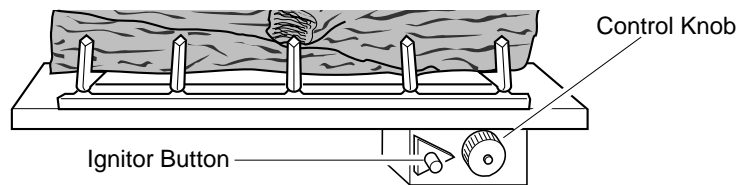

Figure 25 - Control Knob and Ignitor Button Location
4. Wait five (5) minutes to clear out any gas. Then smell for gas, including near the floor. If you smell gas, STOP! Follow "B" in the safety information above. If you don't smell gas, go to the next step.
5. Turn control knob counterclockwise  to the PILOT position. Press in control knob for five (5) seconds (see Figure 25, above).